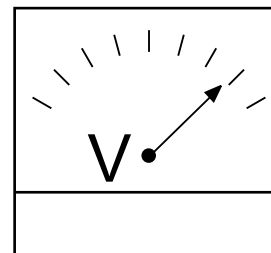

Figure 29. Voltmeter
- The generator's AC-voltmeter (Figure 29) will display the generator's output in **VOLTS**.